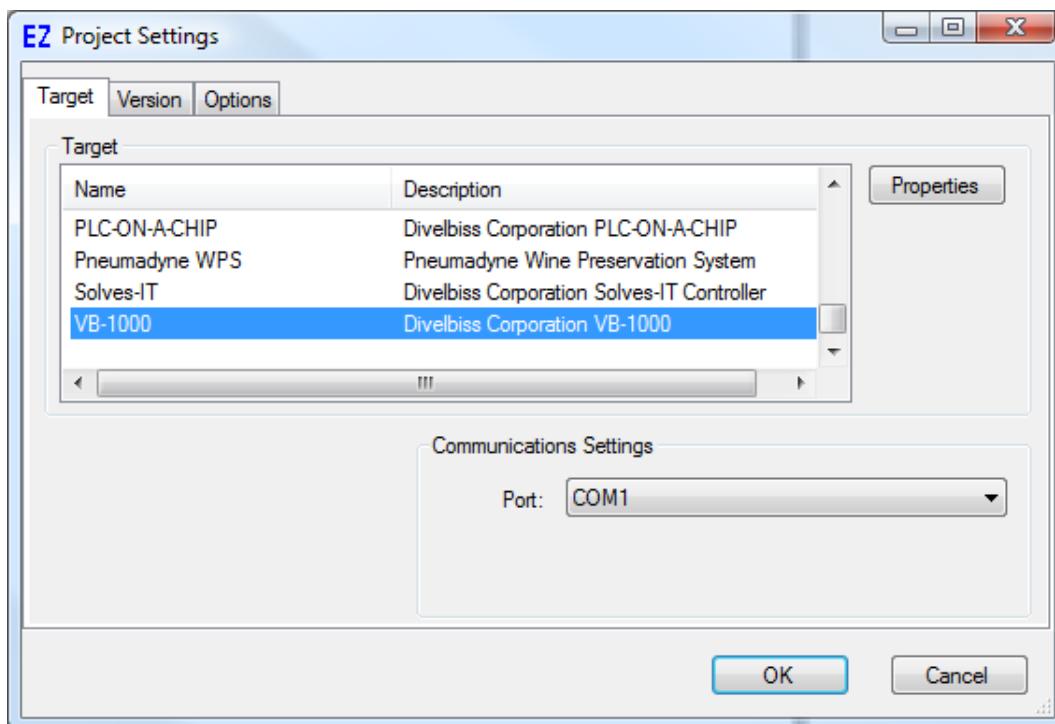

Figure 1.1 - Project Settings Window
1. In EZ LADDER, from the File Menu at the top, click **PROJECT** then **SETTINGS**. This will open the Project Settings Window. Select **VB-1000** as the target from the choices. Refer to Figure 1.1. Verify the Port is correct and the baud rate is 57600.